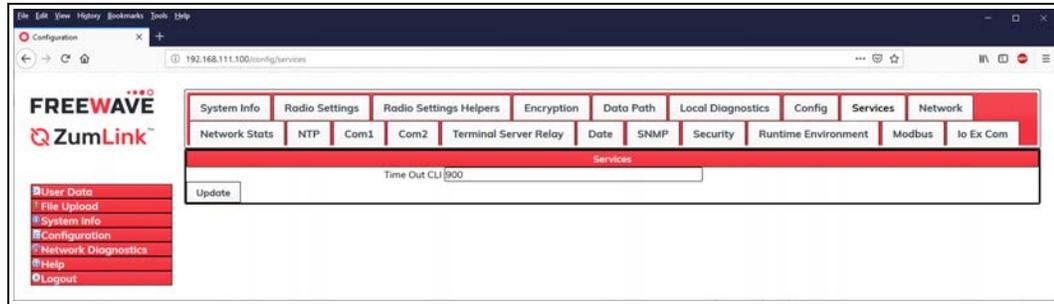

Figure 296: Services window
6. Click the **Services** tab to access the **Services** parameters. Figure 296